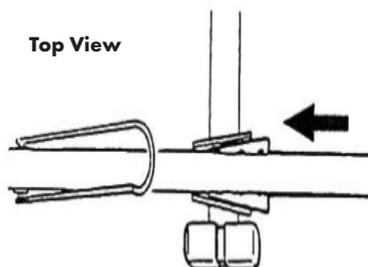

Figure 26
- Insert the conical plates on the cross arms into the conical slots on the cradle as shown in Fig. 26.